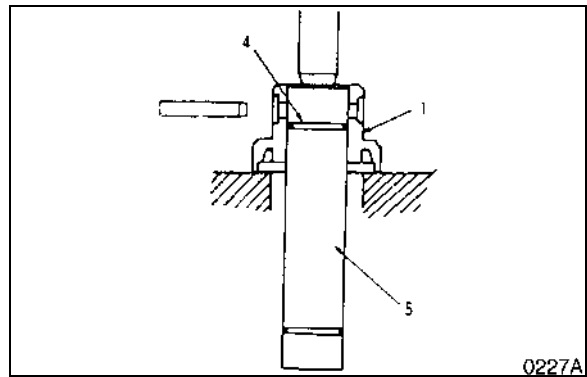

Figure 24
5. Use a press to separate the axle (5, Figure 24), O-ring (4) and bearing (1).